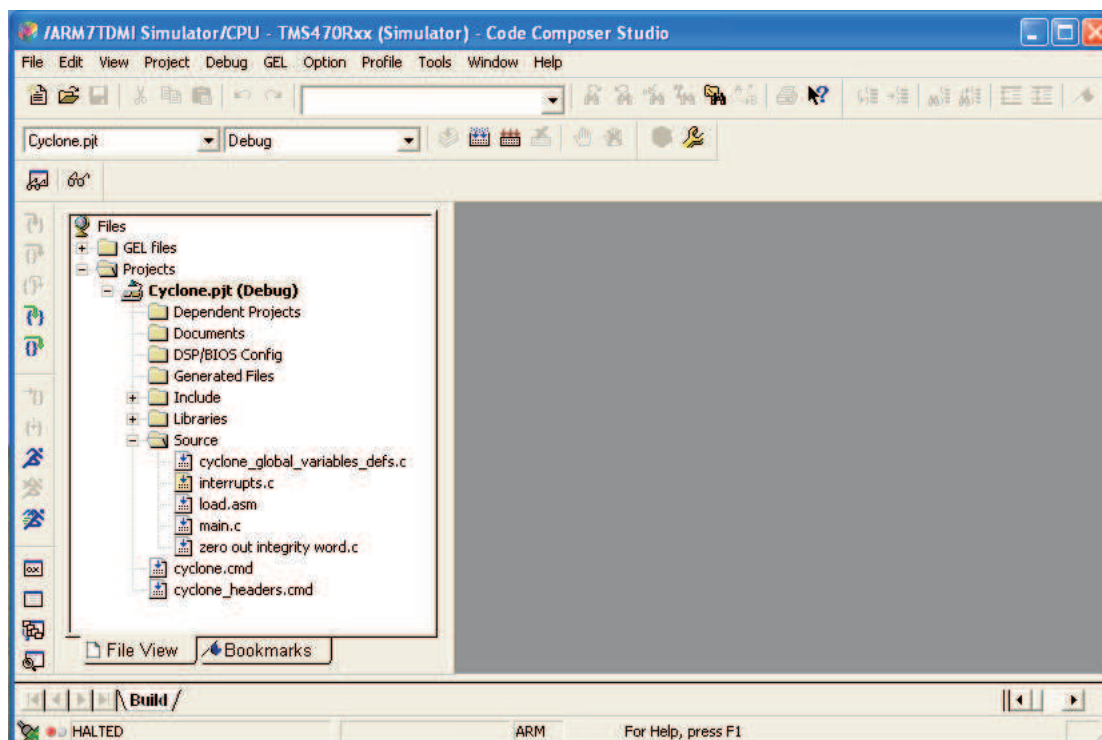

Figure 15. Open a Project File with Example of *Cyclone.pjt* – Initial Open.
2. Launch CCS and open the CCS project file *Cyclone.pjt* from the directory where *Training 02* was saved. The window shown in Figure 15 appears.